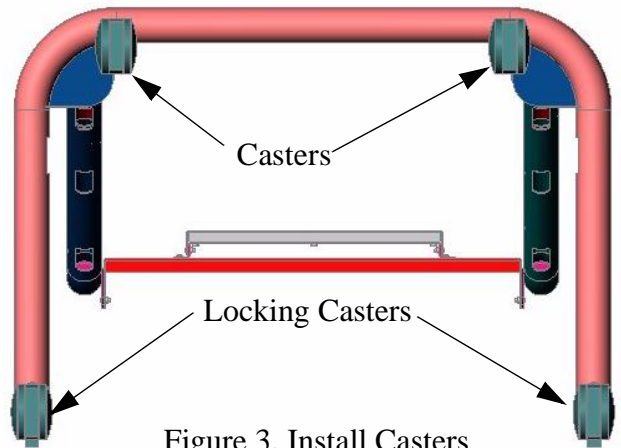

Figure 3. Install Casters
1. Place base (10) upside down and thread two locking casters and two regular casters (60) into base (see Figure 3).